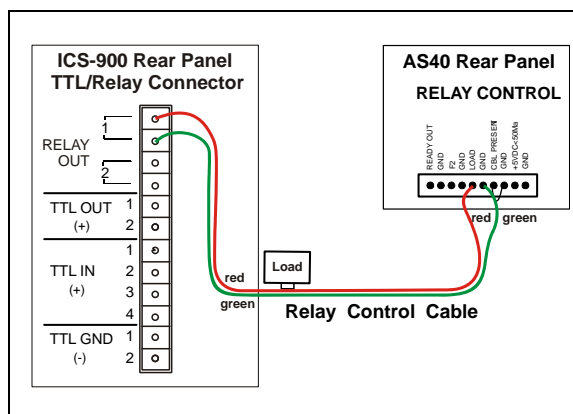

Figure 7. Example AS40 Automated Sampler connection
8. Plug the 12-position connector plug into the TTL and relay connector on the Dionex ICS-900 rear panel (see Figure 7). Make sure the wires connect to the **RELAY OUT 1** pins.
9. Plug the AS40 relay control cable's 10-position connector plug into the **RELAY CONTROL** connector on the AS40 rear panel (see Figure 7).